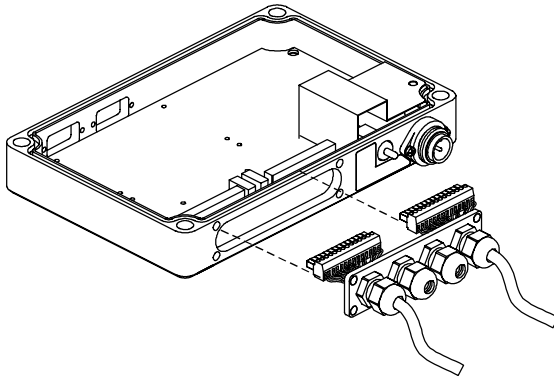

Figure 2.5 - DP1100 view
- 9) After inserting all the wires in the terminal block connectors, pass them through the glands panel hole and insert them into the base again (see figures 2.5 and 2.6).